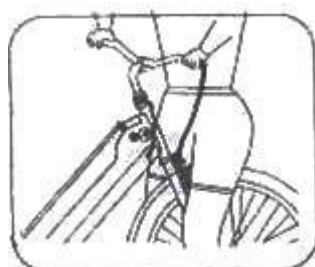

Figure FS2
- **Handle-stem and handle-bar:** Is stem aligned with front wheel? Walk to front of bike, put front wheel between your legs (Figure FS2.) Check if the wheel and stem are aligned straight. Try to twist the handle-bar left and right. The handlebar should not be loose and shouldn't move if moderate force is applied. Make sure that all cables are not stretched and that there is enough slack for all cables when turning handle-bar. Make sure the wheel can be turned freely without entangling wires. The ends of the handle-bars need to be covered, usually by a handle-grip to protect from injuries. Replace if damaged. Apply front brake and move bike forward and backwards. Is fork loose? If it is loose the headset needs to be adjusted.